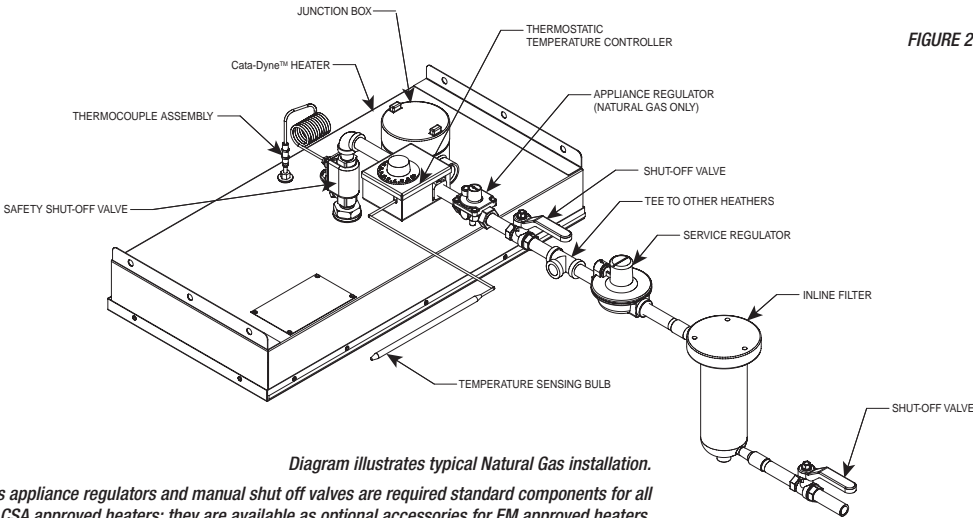

FIGURE 2
6. All components should be installed as indicated in Figure 2 (WX and BX models only) or Figure 3 (MKII model only).